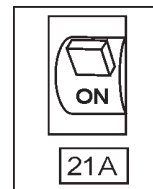

Figure 10. Main Circuit Breaker (ON)
- Place main circuit breaker (Figure 10) in the **ON** position.